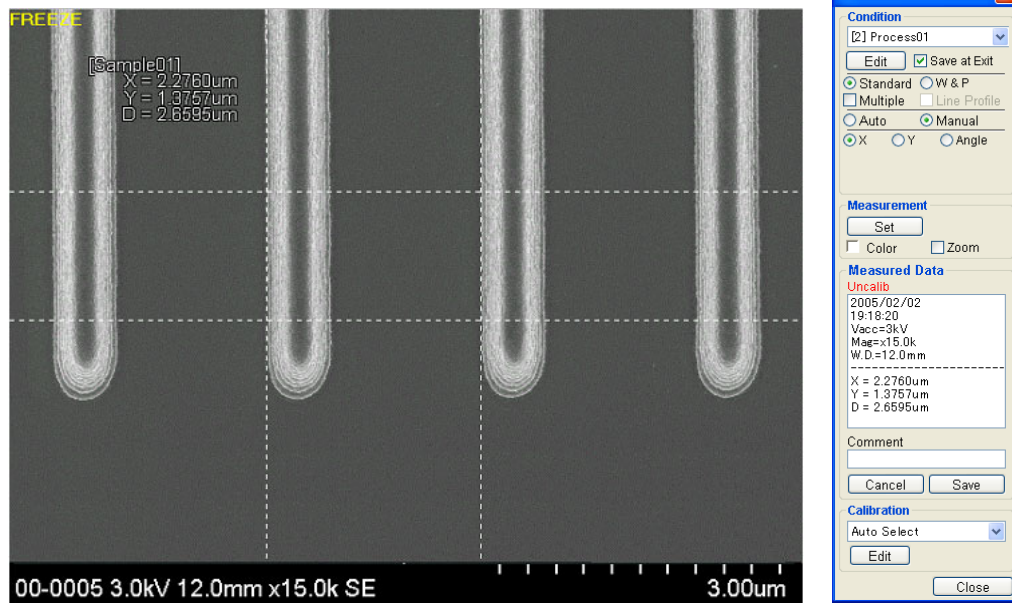

Fig. 6.4-20 Manual Measurement Result
- (c) Click the **Enter** button, and the measured result can be saved as indicated in Fig. 6.4-20. And if the present SEM parameters match the calibration parameters, the calibrated measurement result will be displayed.